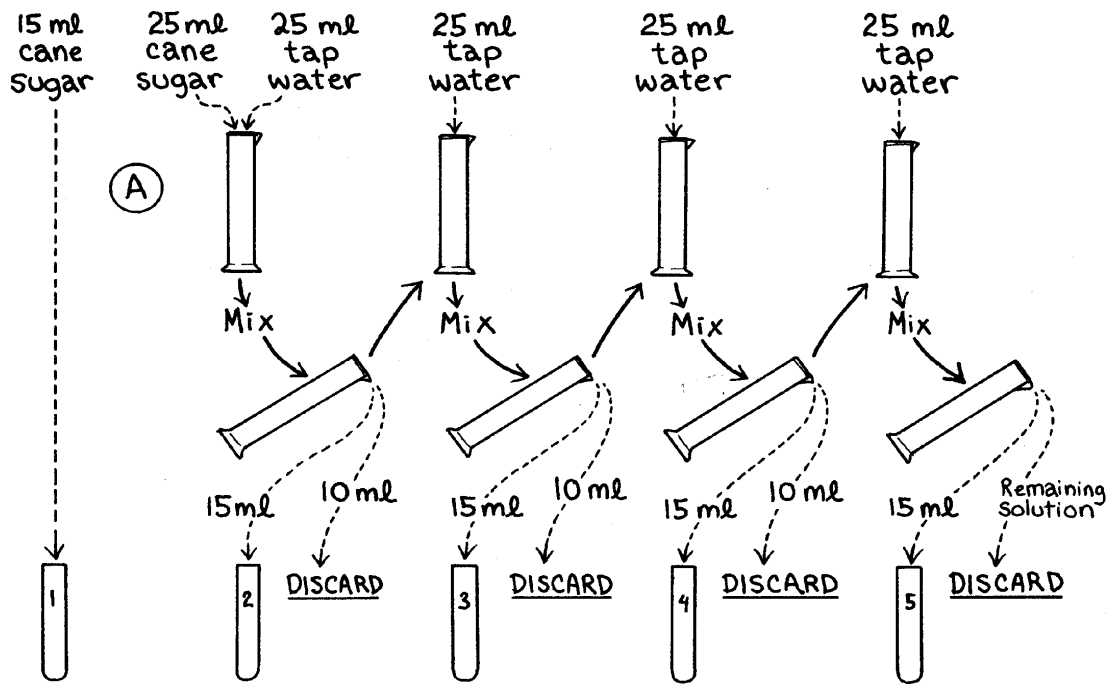

Figure 5.1
6. Pour 10 mL of the syrup solution out of the graduated cylinder into the discard beaker (this will leave 25 mL of syrup solution in the cylinder). Add 25 mL of tap water to the syrup solution in the graduated cylinder and shake gently. Pour 15 mL of this solution into test tube #5. Discard the remaining solution into the discard beaker. Steps 2-5 are illustrated in Figure 5.1.